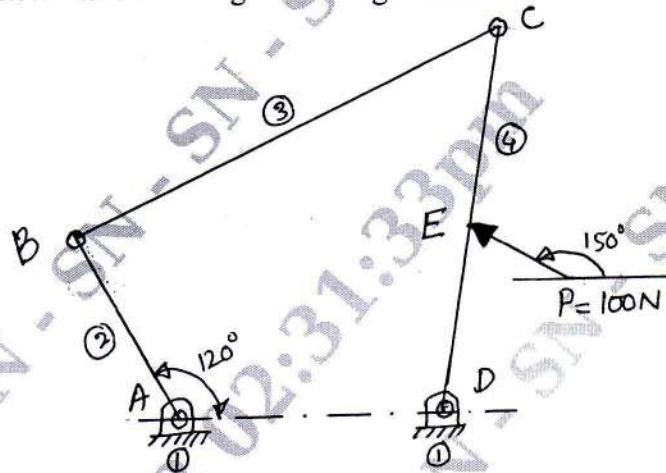

Fig.Q1(b)
- b. A four-link mechanism with the following dimensions is acted upon by a force 100 N  $\angle 150^\circ$  N on the link DC [Fig.Q1(b)]. AD = 500 mm, AB = 400 mm, BC = 900 mm and DC = 750 mm, DE = 350 mm. Determine the input torque T on the link AB for the static equilibrium of the mechanism for the given configuration.